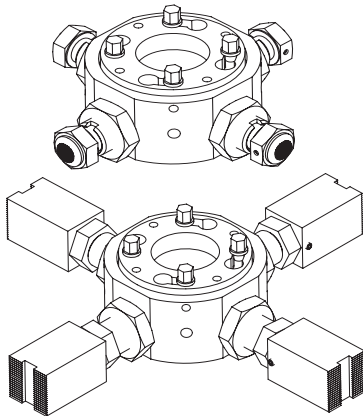

Figure 10: Clamping Arrangements
4. Bolt the setting straps onto the MMI2425 setting ring base, and by using four MMI 2109 bolts secure the setting ring to the base, ensuring that the straps overlap the bore dimension by at least 25mm (1.0"). Refer to Figure 10.